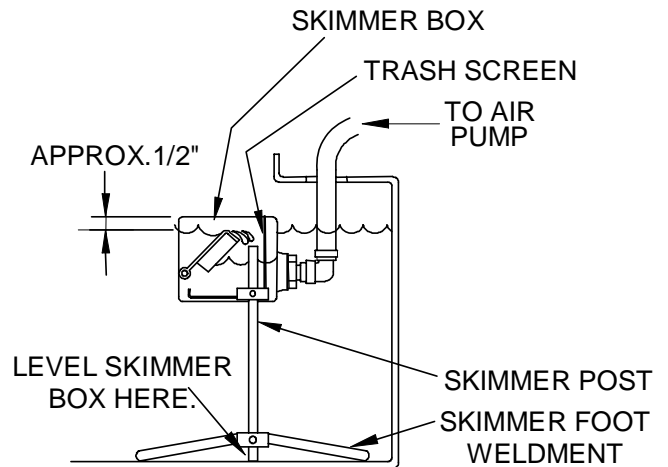

Figure 4
3. Install the skimmer box in the sump. The skimmer box can be set on the floor of the sump or mounted on the skimmer foot and post. If the foot and post is used, install the box on the post and adjust the height of the box. Level the box by adjusting the amount of the post protruding below the Skimmer foot (see Fig. 4). The top of the box should be about 1/2" above the coolant level at the coolant's highest point. The coolant/oil mixture must flow freely under the cross bar at the top of the box. The post can be shortened as needed. The shallow draft box used in sump depths of 5" to 7" will require cutting the post length to approximately 4". When it is used in deeper sumps with restricted access, a longer length may be required.